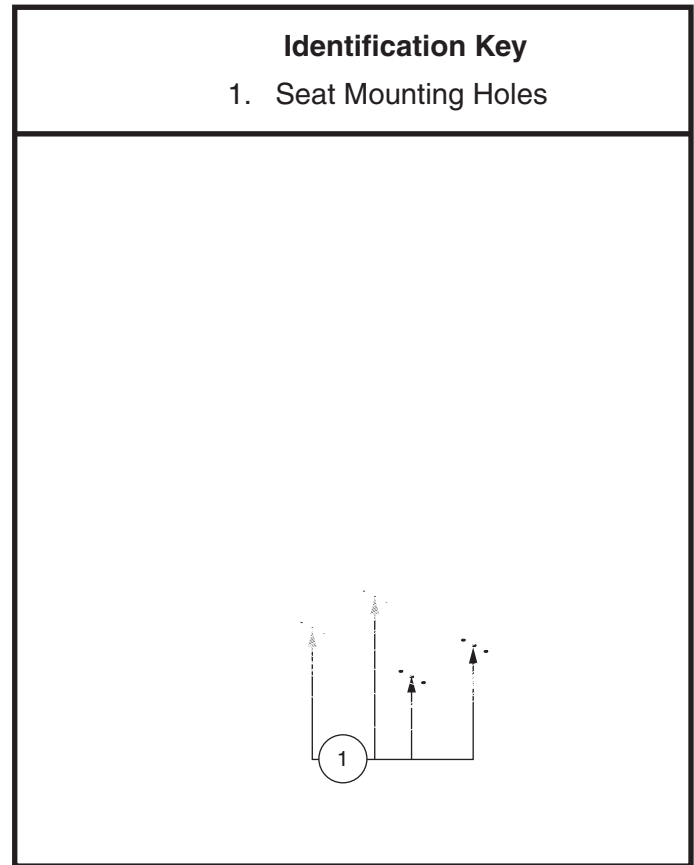

Figure 14. Seat Position Adjustment
6. Reposition the extrusions on a different set of mounting holes. You must move both extrusions the same number of holes either forward or backwards. **See figure 14.**